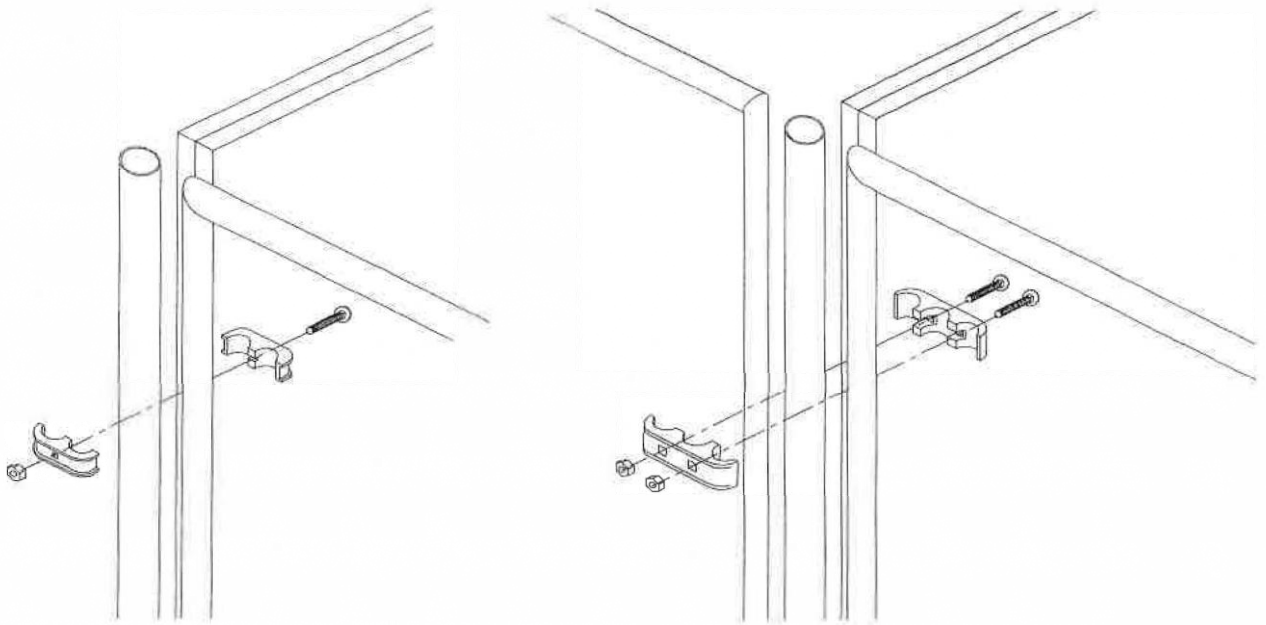
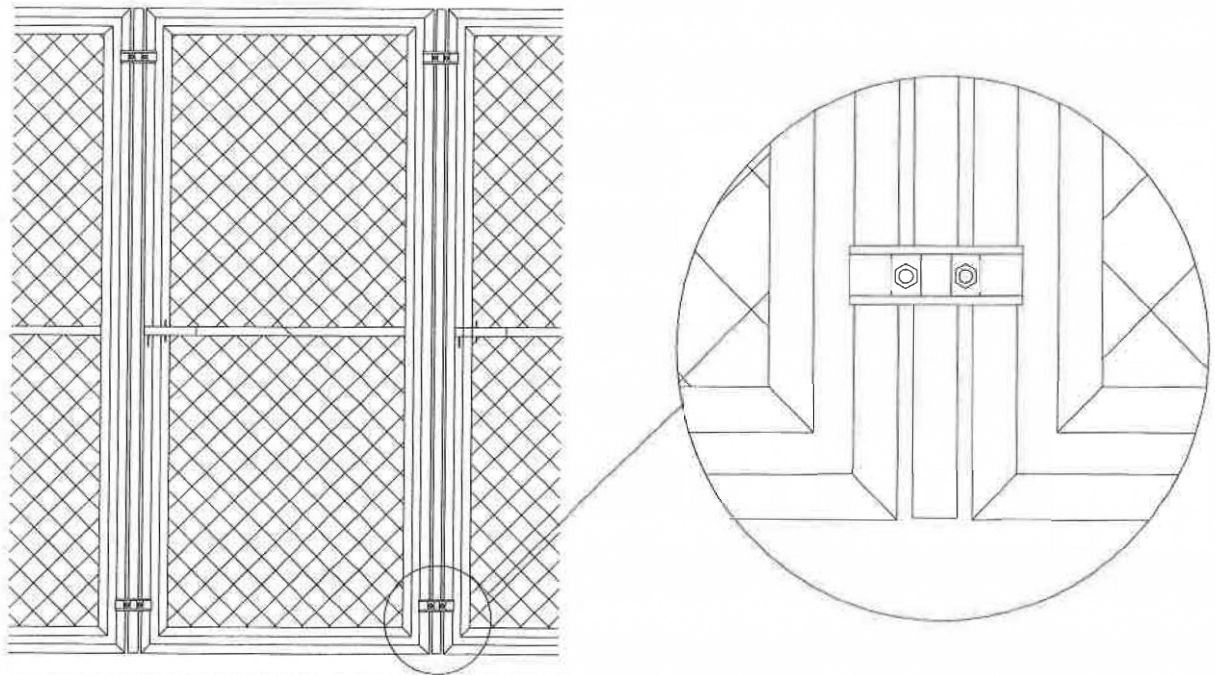

Figure 11
Figure 12
2. Attach the gate / stall front on the front of each run between the filler pipes with two clamps on each side using the 5/16" x 1-1/2" bolts and nuts provided as shown in Figure 11. Note: It takes two halves to make up one clamp. Attach gates / stall fronts to outside division panels using "panel clamps". All other gates / stall fronts will use "triple clamps". **To help insure the safety of the animals the round head of the bolt should be assembled toward the inside of the run.** Note: The triple clamps attach two gates/ stall fronts together. Therefore you will have to hang two gates/ stall fronts at the same time (see Figure 12).